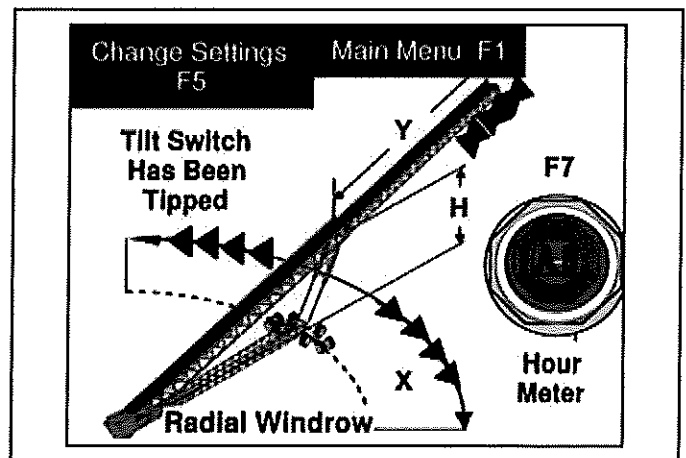

Figure 74
14. Press screen AB (Red Button) or [F7] to stop the conveyor (Figure 74).
7. Press screen AB (Red Button) or [F7] to stop the conveyor (Figure 74).